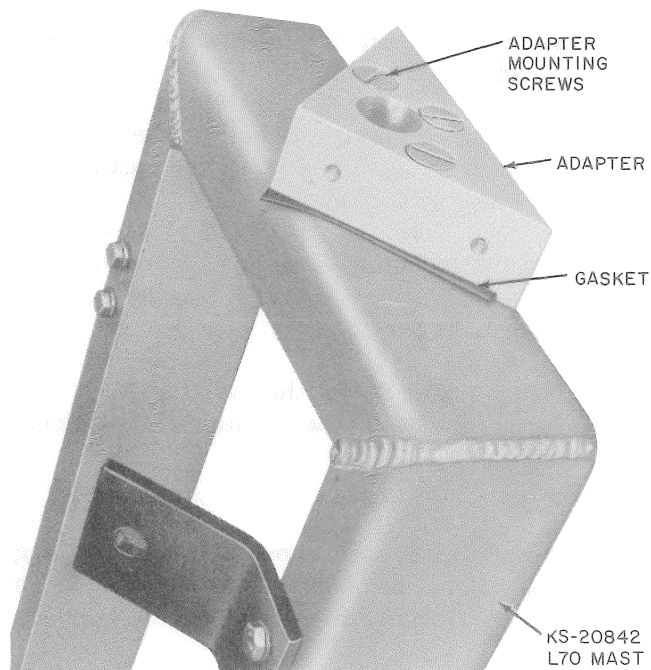

Fig. 29.2—Installation of KS-20842, List 72 Sign Kit
- (2) Install sign kit, which includes gasket adapter and mounting hardware, on top of mast using the three screws furnished (Fig. 29.2).
(3) Install electrical wiring in mast before securing sign to adapter.
(4) Secure KS-20031, List 1 sign to adapter using the four Phillips RH machine screws furnished with kit.